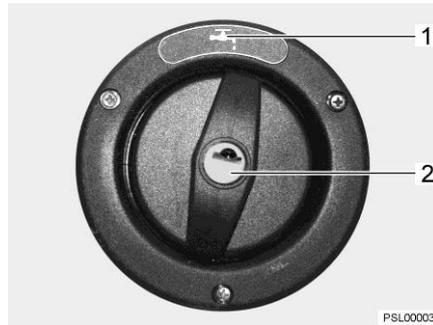

Fig. 167 Cap for the drinking water filler neck
The drinking water filler neck is indicated by the symbol "☞" (Fig. 167,1). The cap is opened and closed using the key for the external flap locks.
- Insert key into locking cylinder (Fig. 167,2) and turn a quarter turn in an anticlockwise direction.